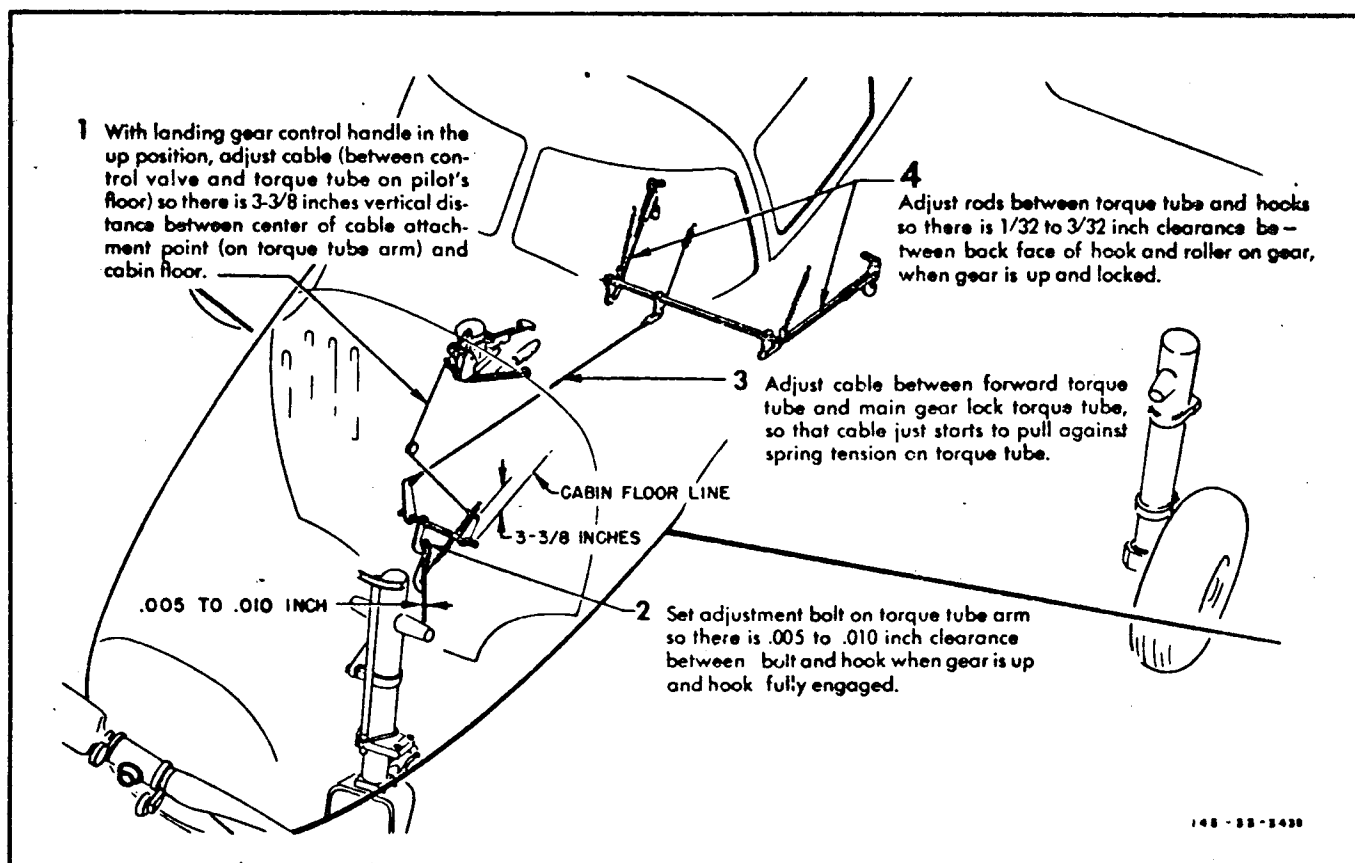

Figure 32 - LANDING GEAR UP-LOCK AND CONTROL LINKAGE ADJUSTMENTS
**Adjusting Landing Gear Up-lock and Control Linkage—See figure 32.**